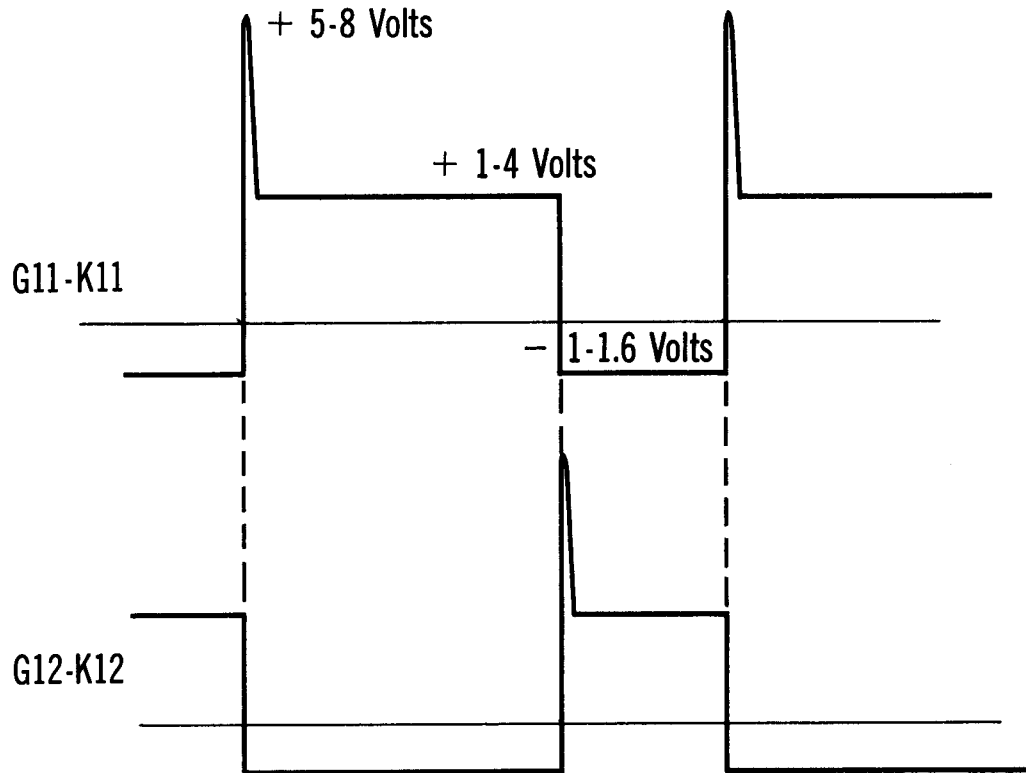

FIGURE 1 - TYPICAL THYRISTOR GATE SIGNALS AND VOLTAGES
Since the basic function of the gate modulator is to produce gate signals for the thyristors with isolation, noise security, and special shaping, a carrier signal is utilized for this purpose. Furthermore, the gate signal is built up of three parts: (1) the main "holding" signal, necessary to maintain the thyristor in conduction once fired; (2) a very fast-rising and high-level "initiating" signal, necessary to achieve the fast turn-on of the thyristor required for inverter service; and (3) a reverse-biasing signal to the gate during the OFF portion of the thyristor, to assure that any stray noise will not cause false firing. Refer to Figures 1 and 2 for the waveshapes to be produced.
Supply voltages to the gate modulator board are the carrier supply, which is the high-frequency (approximately 10 kc) square-wave SWA, SWB. This voltage is approximately 80 volts peak-to-peak. The input signal is that received from the output of the counter/driver board, which is a stepped wave of either +40 or +20 volts amplitude. The neutral of the square-wave carrier supply is connected to +20 volt supply also. The output of gate modulator board is the group of thyristor gate signals similar to Figure 1.